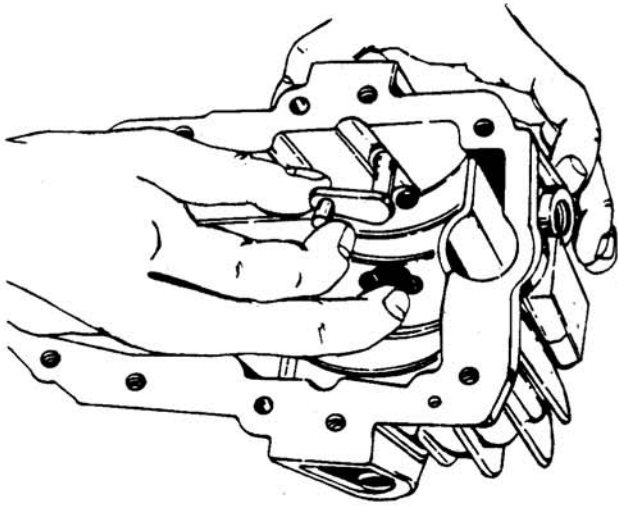

Figure 6-39. Installing Trunnion Arm
- b. Install trunnion arm. See Figure 6-39.